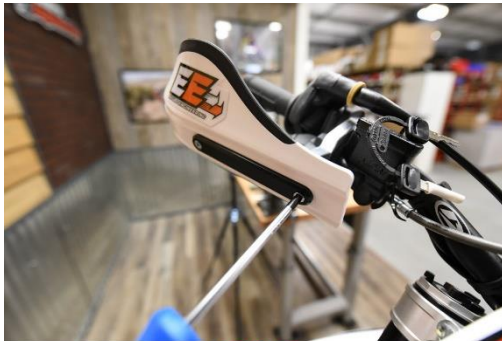

FIG 5
5. We have 7 colorways of Roost Deflectors to choose from. Pick your favorite and mount them up to your New Aluminum Moto Roost Deflector Mounts. (FIG 5) There are 3 different mounting holes on the Moto Deflector arm to choose from to achieve your desired placement on the bars.